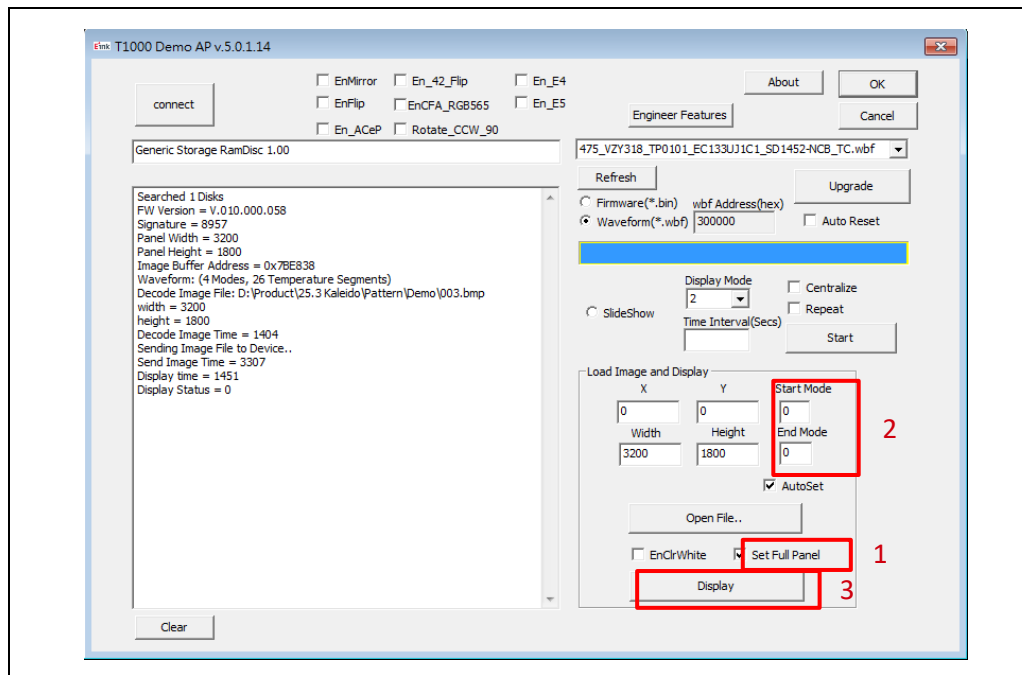

Figure 3.3
(1) How to minimize artifact
- Execute T1000 Demo AP (refer to Fig 3.3)